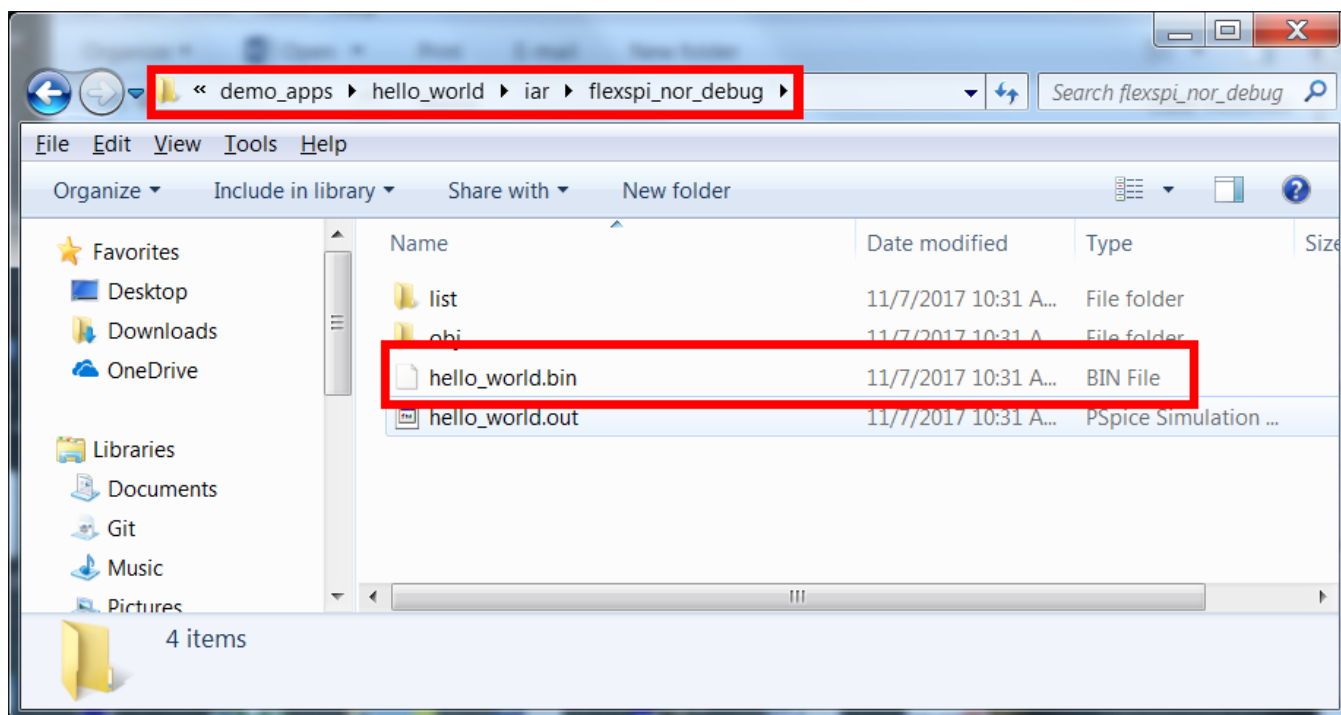

Figure 5. hello_world.bin location
- Build the project and generate an image. You can find the hello_world.bin at following location (Figure 5).